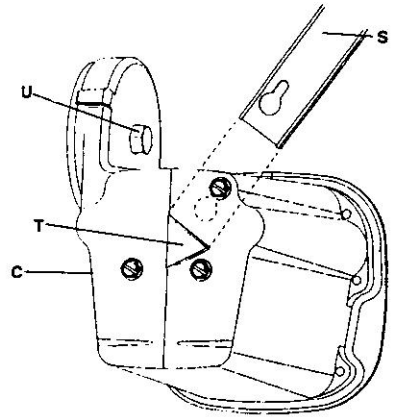
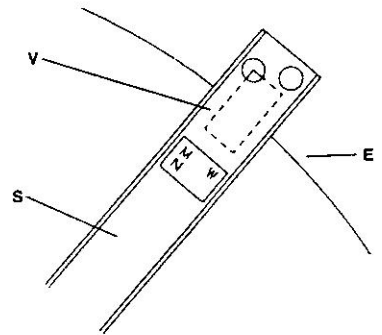

FIGURE 4a
FIGURE 4b
**TARGET AIMING INSTRUCTIONS:** (See Figures 4a, 4b, 4c)
1. Install supplied aiming sight bracket (S) on the socket housing (C) as shown in Figure 4a. Ensure alignment to boss (T).
2. Loosen main fixture mounting bolt (M) and socket housing retaining bolt (U).
4. Align center of hole with the top left edge of lens door retaining latch (V) as shown in Figure 4b.